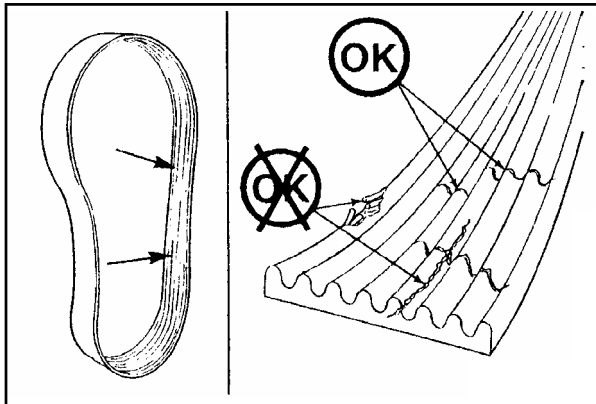

FIG 7.57
**INSPECTION** – Visually inspect the belt daily. Check the belt for intersecting cracks (fig. 7.57). Transverse (across the belt width) cracks are acceptable. Longitudinal (direction of belt length) cracks that intersect with transverse cracks are not acceptable. Replace the belt if it is frayed or has pieces of material missing.